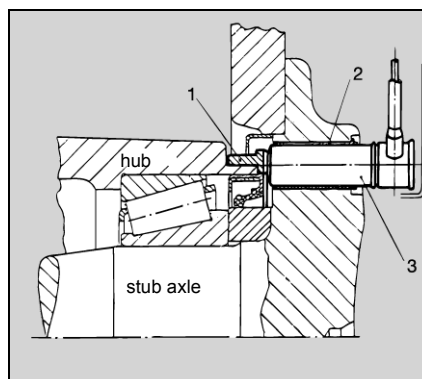

Fig. 3: ABS sensor installation – front axle –
The inductive sensor (fig. 3) comprises a permanent magnet, core and coil. The magnetic flux surrounding the coil is cut by the rotating motion of the toothed wheel inducing an AC voltage whose frequency is directly proportional to the wheel speed.
Fig. 3 shows a typical installation of toothed wheel (1), clamping bush (2) and sensor (3) on a front wheel. In such an arrangement the clamping bush should be mounted with a temperature-resistant and water-proof grease (e. g. silicone grease) in order to protect the hole in the steering knuckle from corrosion and dirt. The toothed wheel is installed in a similar fashion on the hub of the rear wheel. The sensor is securely mounted on the axle beam with a special stiff bracket.